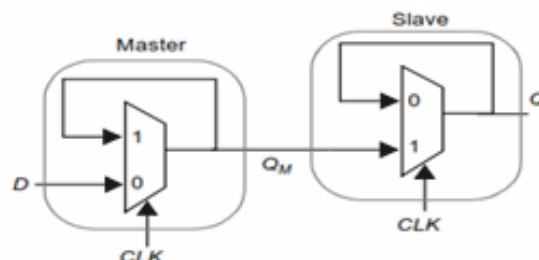

Figure 3.9: Positive edge-triggered register based on a master-slave configuration.
- An edge-triggered register is to use a master-slave configuration as shown in Figure 3.9.